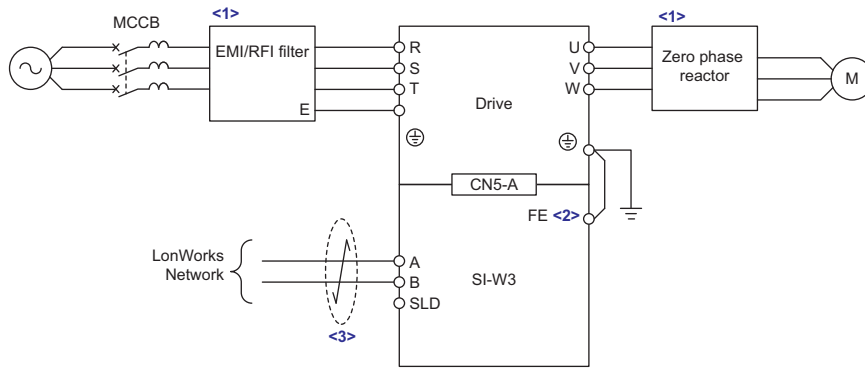

Figure 22 Option Connection Diagram
6. Firmly connect the LonWorks communication cable to the option terminal block CN1. Install LonWorks communications cables apart from main-circuit wiring and other electrical and power lines. Ensure the cable end is firmly connected (see **Figure 22**). Refer to **Communication Cable Topology on page 25** for details of installing.
7. Replace and secure the front covers of the drive (C, F) and replace the digital operator (D).
5. Firmly connect the LonWorks communication cable to the option terminal block CN1. Install LonWorks communications cables apart from main-circuit wiring and other electrical and power lines. Ensure the cable end is firmly connected (see Figure 22). Refer to Communication Cable Topology on page 25 for details of installing.
6. Replace and secure the LED Status Ring board (H). Use the open space provided inside the LED Status Ring board to route option wiring.